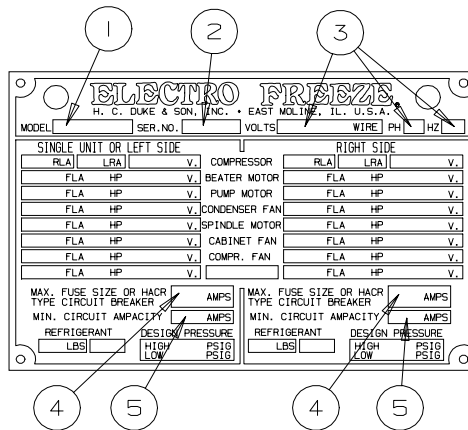

Figure 3-1 Data Plate
1. Always verify electrical specifications on the data plate (see figure 3-1) of each individual freezer. Data plate specifications will always supersede the information in this manual.
Fill in the following information as soon as you receive your Electro Freeze 812 (The item numbers correspond to the callout numbers in figure 3-1, above.)